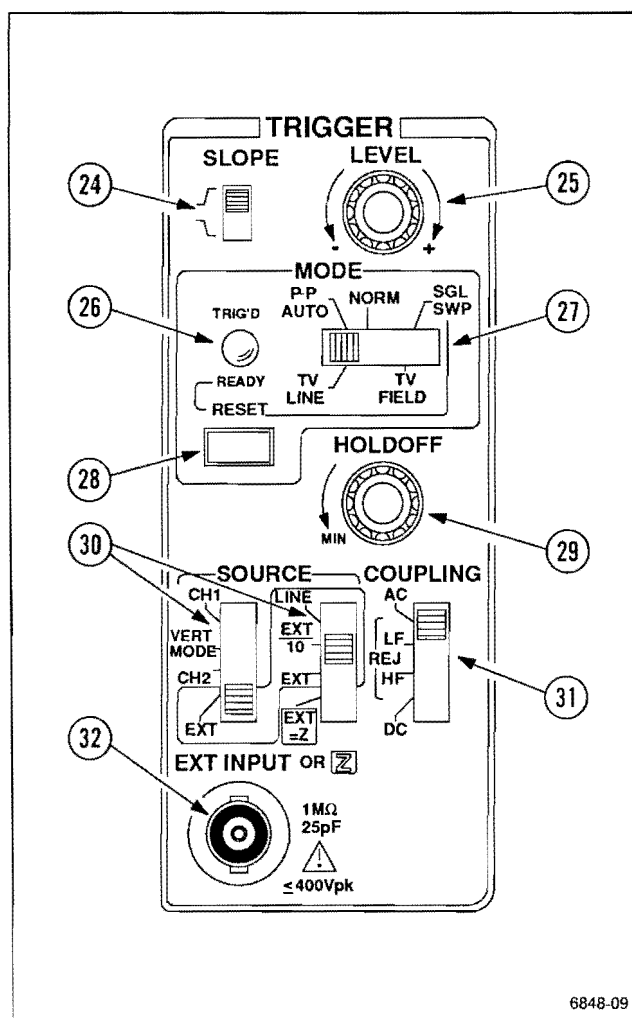

Figure 2-6. Trigger controls, connector, and indicators.
See Figure 2-6 for location of items 24 through 32.
- ②④ **Trigger SLOPE Switch**—Selects either the positive or negative slope of the trigger signal to start the sweep.
- ②⑤ **Trigger LEVEL Control**—Selects the dc level that the Trigger signal must pass through to produce triggering.
- ②⑥ **TRIG'D/READY Indicator**—A dual-function, light-emitting diode (LED) indicator. In P-P AUTO,